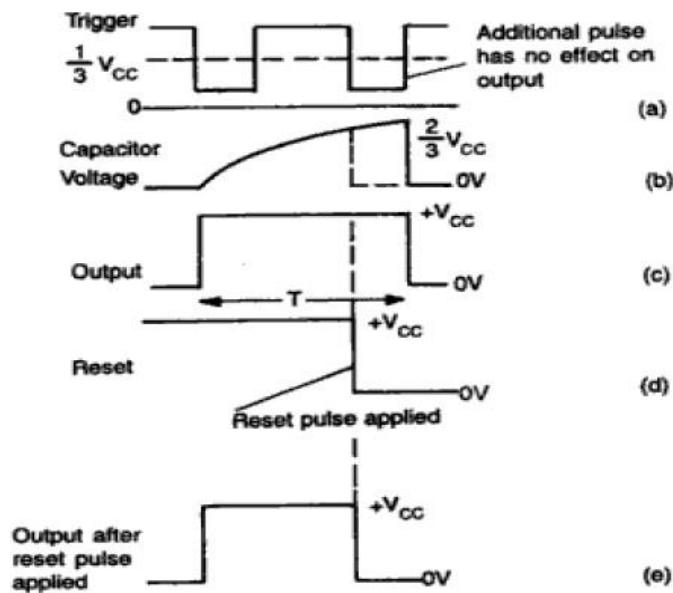

Fig. 8.5 Timing pulses
- Since C is unclamped, voltage across it rises exponentially through R towards V_{cc} with a time constant RC as in Figure 8.5 b.
However, if a negative going reset pulse as in Figure 8.5 d is applied to the reset terminal during the timing cycle, transistor Q_2 goes off, Q_1 becomes on and the external timing capacitor C is immediately discharged. The output now will be as in Figure 8.5 e.